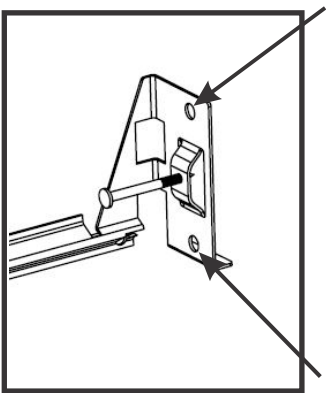

Figure 1
Step 1. Install fixture using the two hanger bars provided. Each hanger bar foot is contoured to align with the wooden joist. Make sure the legs of the hanger bars are completely straight & parallel during installation. Secure fixture with two #8 x 1-1/4" drywall screws (1 on each hole as indicated by the arrows in Fig. 1) on each hanger bar foot. Mounting screws are not provided. To fit into a smaller joist spacing, shorten hanger bars by snapping off one or more sections at notches (Fig. 2). **NOTE: Maximum span of hanger bars is 16".**